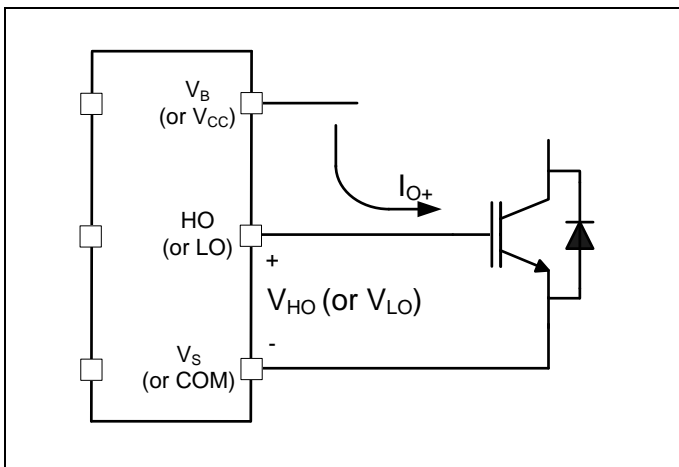

Figure 4 HVIC Sourcing current
The 2ED2182 (4) S06F (J) HVIC is designed to drive MOSFET or IGBT power devices. Figures 4 and 5 illustrate several parameters associated with the gate drive functionality of the HVIC. The output current of the HVIC, used to drive the gate of the power switch, is defined as I_o . The voltage that drives the gate of the external power switch is defined as V_{HO} for the high-side power switch and V_{LO} for the low-side power switch; this parameter is sometimes generically called V_{OUT} and in this case does not differentiate between the high-side or low-side output voltage.